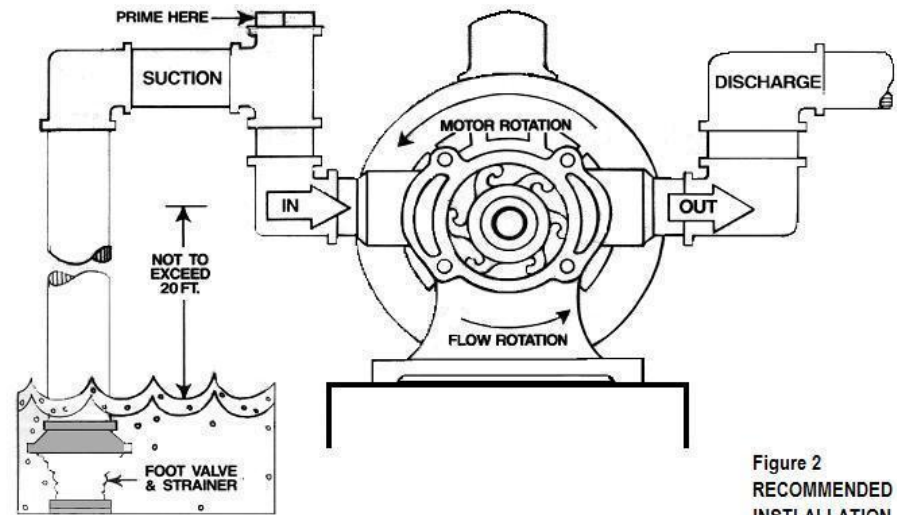

Figure 2
From the factory, the pump is set up for counter clockwise rotation as shown in Figure 2. To reverse the direction of the pump, first remove the end plate and impeller. Reinsert the impeller into the housing making sure the blades of the impeller are oriented in the opposite direction. Replace end plate, making sure the gasket is properly aligned. **NOTE:** Make sure the motor is rotating the same direction as the pump. See Changing Motor Direction in section below.
- Use a "T" fitting (figure 2) on the suction line will make filling the hose/pipe easier.